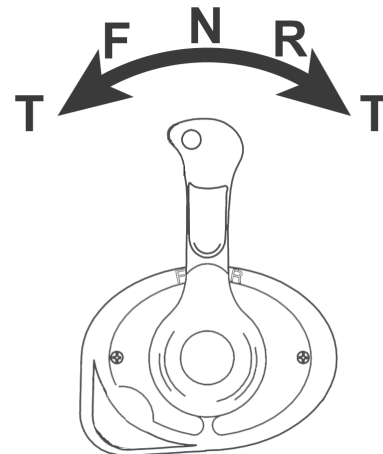

Figure D6: Side-Mount Control Operation
Shifting and engine speed are controlled with the same lever (1). See Figure D6.